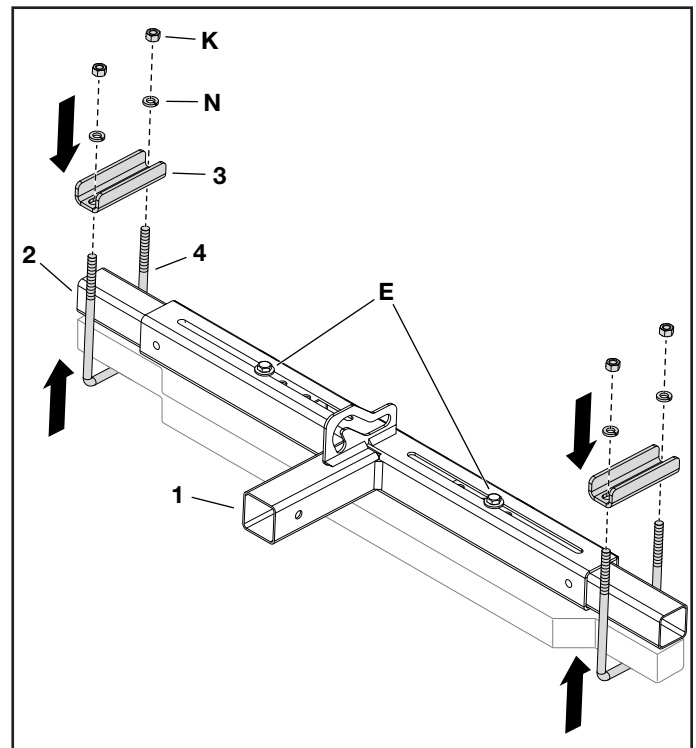

FIGURE 2
STEP 2: (SEE FIGURE 2)
- Attach the hitch mount assembly (1) to the tractor frame using two U-bolts (4) secured with two mounting brackets (3), four washers (N), and four hex nuts (K). Do not tighten.
- If the slider tube does not fully extend into both U-bolts (4), then loosen the appropriate hex bolt (E) and reposition the slider tube (2).